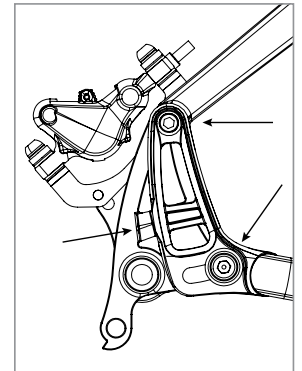

Figure 5
1. Slightly loosen the upper pivot bolts and the lower fixing bolts on both the driveside and non-driveside dropouts (Fig 5).
1. Tighten the upper fixing bolts and both lower fixing bolts to 8 Nm (Fig 5).
3. If present, tighten both tension screws 1/8 turn to prevent them from rattling out during use (Fig 5).